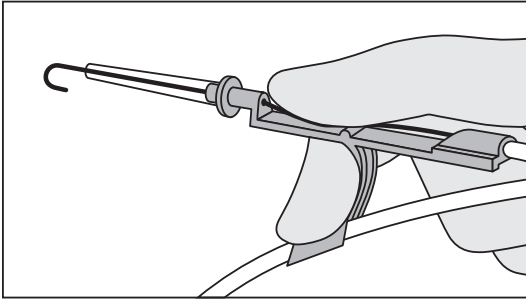

Figure 2
- Using thumb, straighten the "J" by retracting SWG into Arrow Advancer™ (refer to Figures 2 and 3).